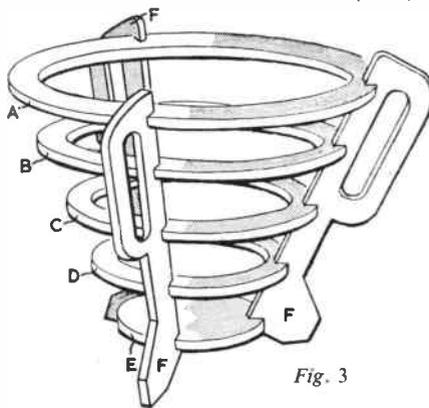
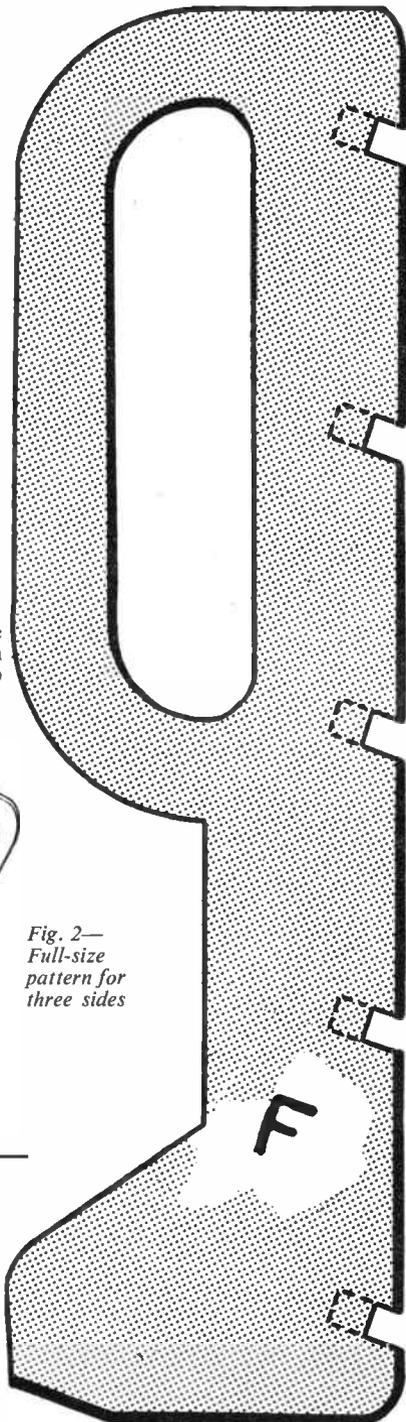

Fig. 3
Fig. 2—
Three sides (F) are required and these are shown full size in Fig. 2. Trace and transfer to  $\frac{3}{8}$  in. wood by means of carbon paper. When all the pieces have been cut, clean up with glasspaper and glue together as indicated in Fig. 3. Note that the notches in the rings fit into the notches in the sides. Scrape away any excess glue. Lay it on one side for twenty-four hours before painting.